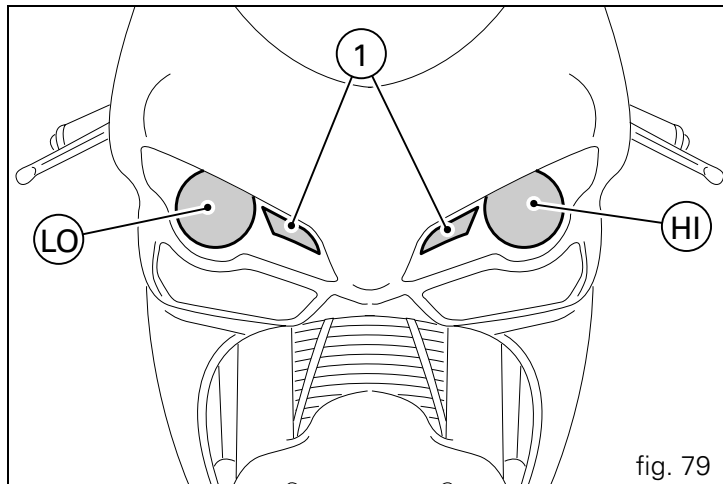

fig. 79
Before replacing a burnt-out bulb, make sure that the new one matches the voltage and wattage specifications in the paragraph "Electrical System" on page 118. Always check that the new bulb works before refitting removed parts. Figure 79 shows the position of the low beam (LO), high beam (HI) and side light (1) bulbs.